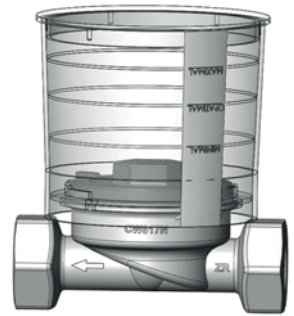
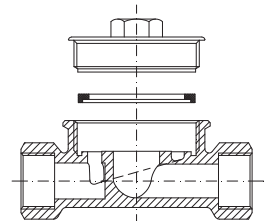

Fig. 1
Fig. 2
- 7.2. FMHs are delivered with an inserted sealing ring and with a screwed in cover (see Fig. 1). For FMHs with threaded connection, continue with No. 7.3. For FMHs with soldered connection: Remove mounting aid, cover and sealing ring. Solder the connections and allow them to cool down. Insert the sealing ring into the FMH below the head thread into the groove, provided and carefully screw the cover tightly and install the mounting aid (see Fig. 2).